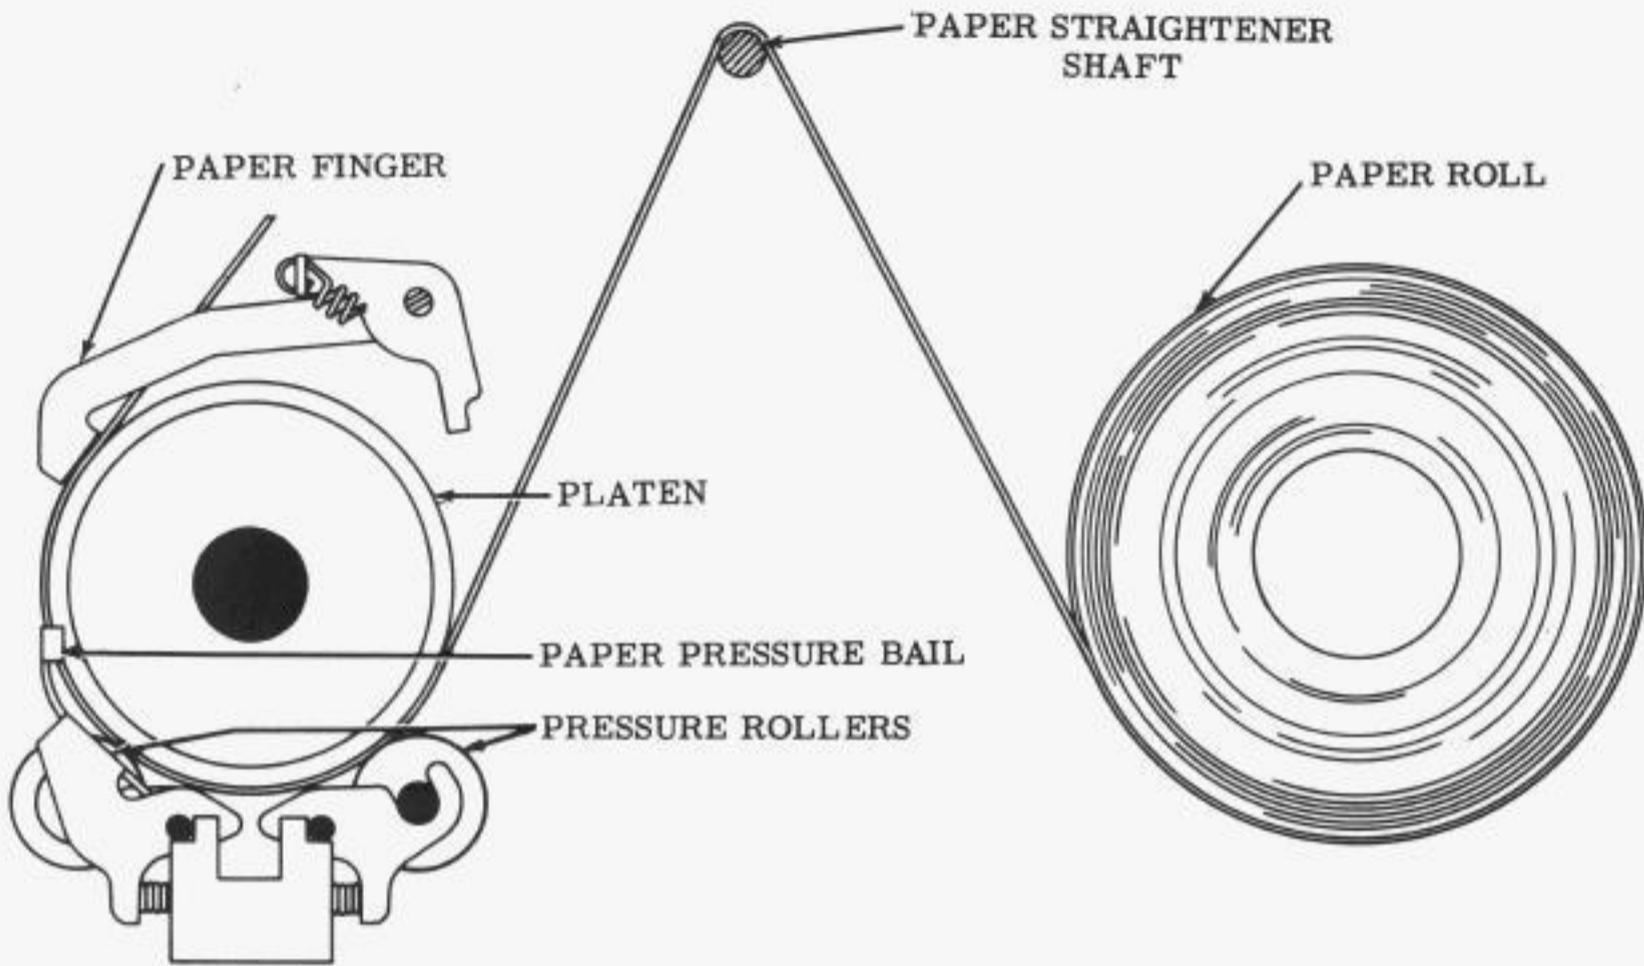

Figure 5 - Path of Paper
2.39 To install paper, remove paper spindle by sliding one of the spindle retainers toward the rear. Insert spindle in a roll of paper and remount it so that the paper unwinds from underneath. With the paper release lever toward the rear, route the paper up over the paper straightener shaft, down, and under the platen as shown in Figure 5.